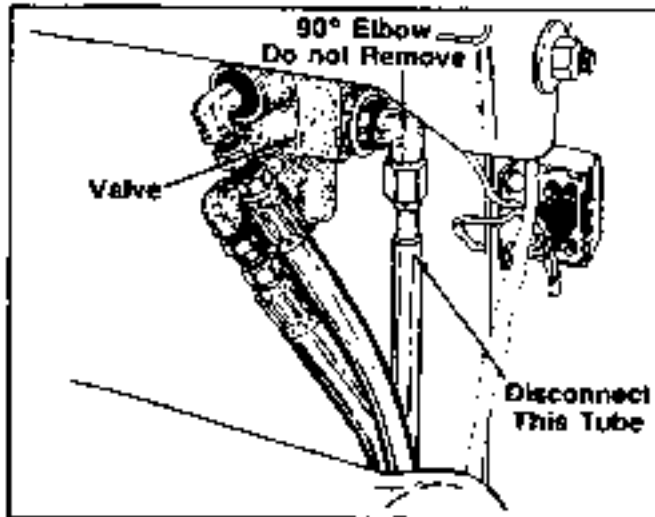

FIGURE 20.
12. Remove the tube assembly from the right hand side of pump (marked "Out" port), then disconnect the other end of tube at left hand side of valve. Do not remove 90° elbow. See figure 20.